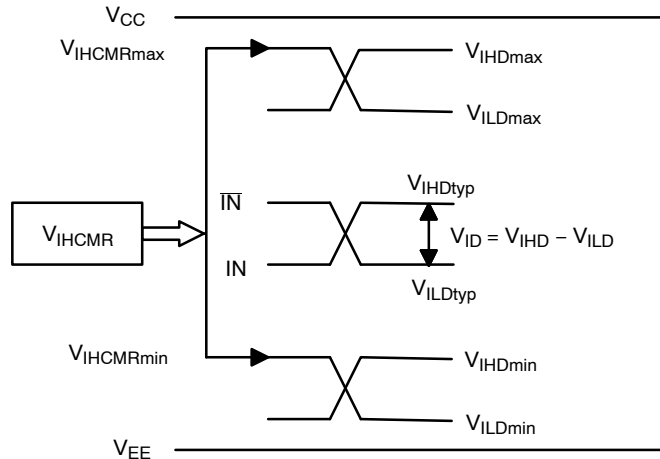

Figure 15. V_{IHCMR} Diagram
29. $t_{\text{SKEW}} = |t_{\text{PLH}} - t_{\text{PHL}}|$ for a nominal 50% differential clock input waveform. See Figure 15.